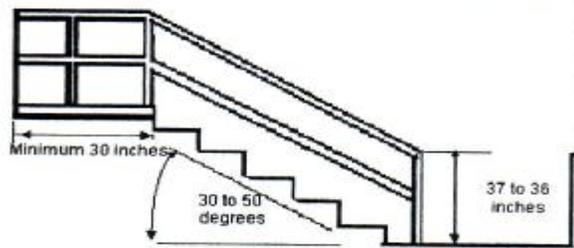

Figure 1A
- Stairways shall be installed at an angle of not less than 30 degrees and no more than 50 degrees horizontally, as shown in Figure 1A;